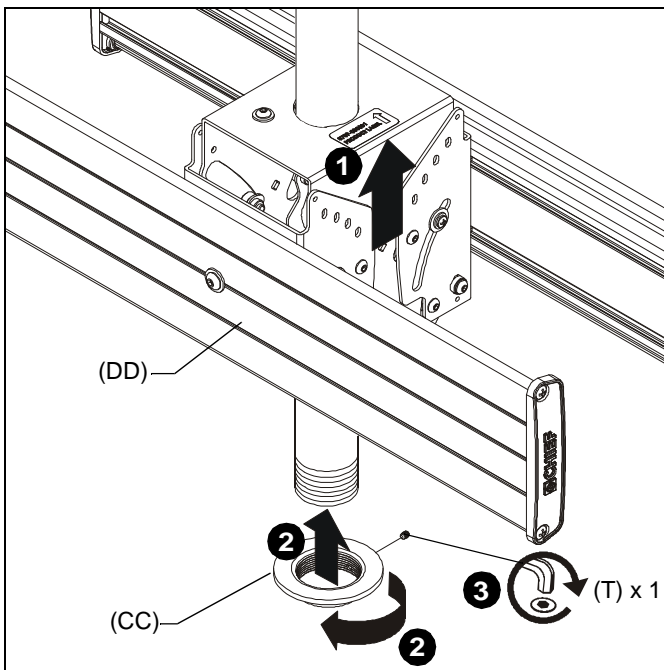

Figure 1
1. Slide ceiling mount (DD) up from below onto installed column (not included). (See Figure 1)
2. Thread bottom coupling (CC) onto installed column until tight, with a minimum of four threads engaged.
3. Install and tighten one 10-24 x 1/4" set screw (T) into bottom coupling (CC). (See Figure 1)